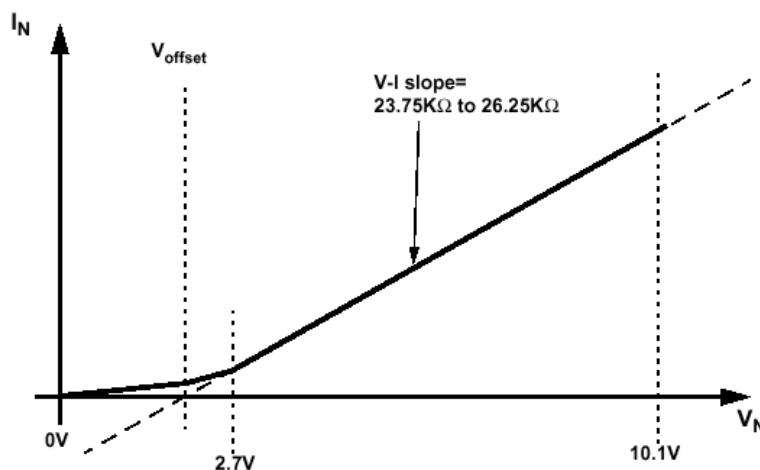

Figure 33C.20—Signature voltage offset
- [1] IEEE Std 802.3af, 2003 Edition: Section 33.3.3, Annex 33C.4, 33C.20, Figure 33C.19, Table 33-8
Discussion: If a PD will accept power, but is not powered, via the PI then it should present a valid detection signature at the PI between the positive and negative V_{Port} pins for both pinout Modes such that the attached PSE will properly detect the PD's request for power. The standard defines the signature to be comprised of five characteristics: a valid resistance, capacitance, and inductance; and either a voltage offset or a current offset. The voltage offset limit was specified to allow for the inherent voltage offset for two series diode drops. Similarly, the current limit allows for internal FET leakage. Given the minimum and maximum limits on the defined resistive slope, there are no minimum bounds for the offset components as a maximum current implies a minimum voltage, and vice versa. Figure 33C.20 of Annex C in Clause 33, reproduced below, illustrate the signature resistance and voltage offsets.
- [1] IEEE Std 802.3af, 2003 Edition: Subclause 33.3.3, Annex 33C.4, 33C.20, Figure 33C.19, Table 33-9